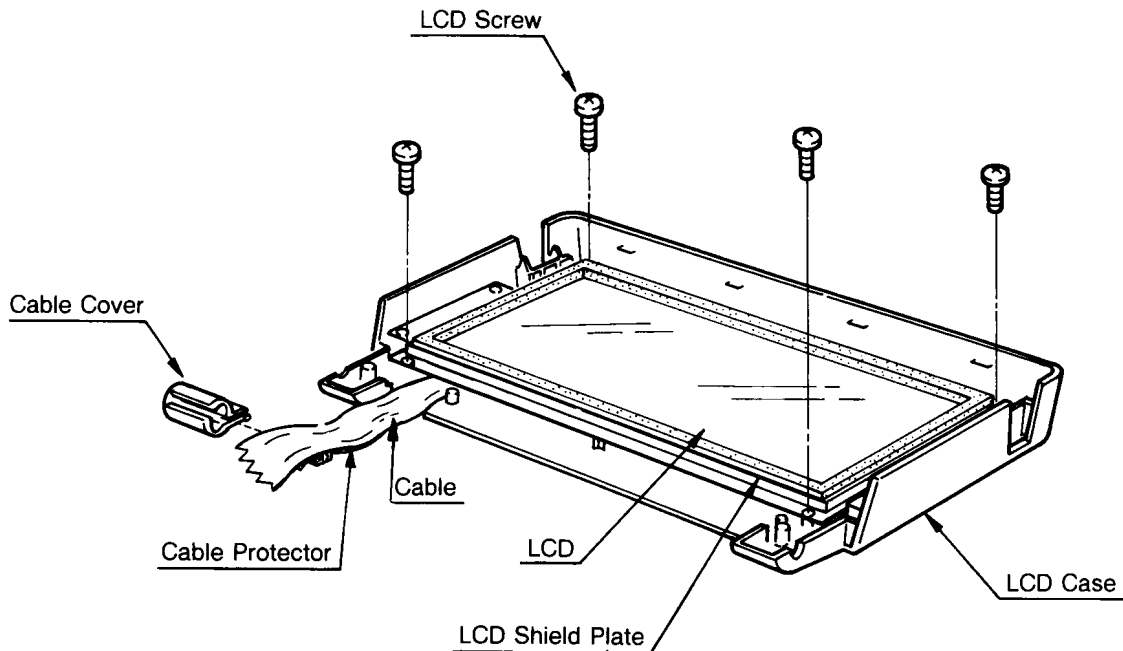

**Figure 2-8. Exploded View of LCD Assembly**
(3) Turn over the Top Cover and remove two LCD Frame screws on both sides. (Figure 2-8)
(4) Remove the LCD Frame, then remove two Lock Buttons and two Lock Button Springs on both sides.
(5) Remove the Yoke screws (three at the left, two at the right) and remove the Yokes.